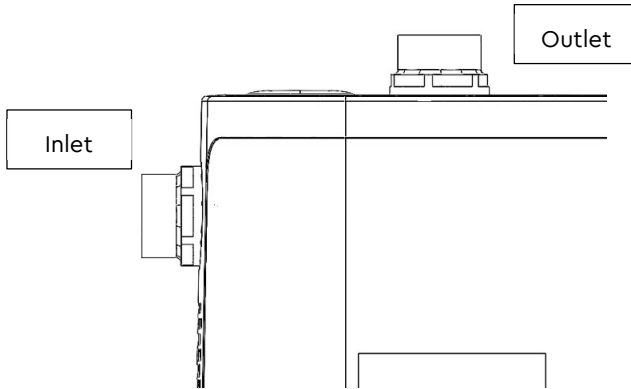

Figure 3 – Adaptor Install Step 1
- **Step 1 - Inlet/outlet brass compression adaptor:** Adapters must be fitted with the provided O-rings, and then installed to the inlet and outlet of the pump. The adapters must be screwed in until they bottom out at approximately 30N/m; there must be no gap between the sealing face of the pump and the external lip of the adaptor – see figure 3.